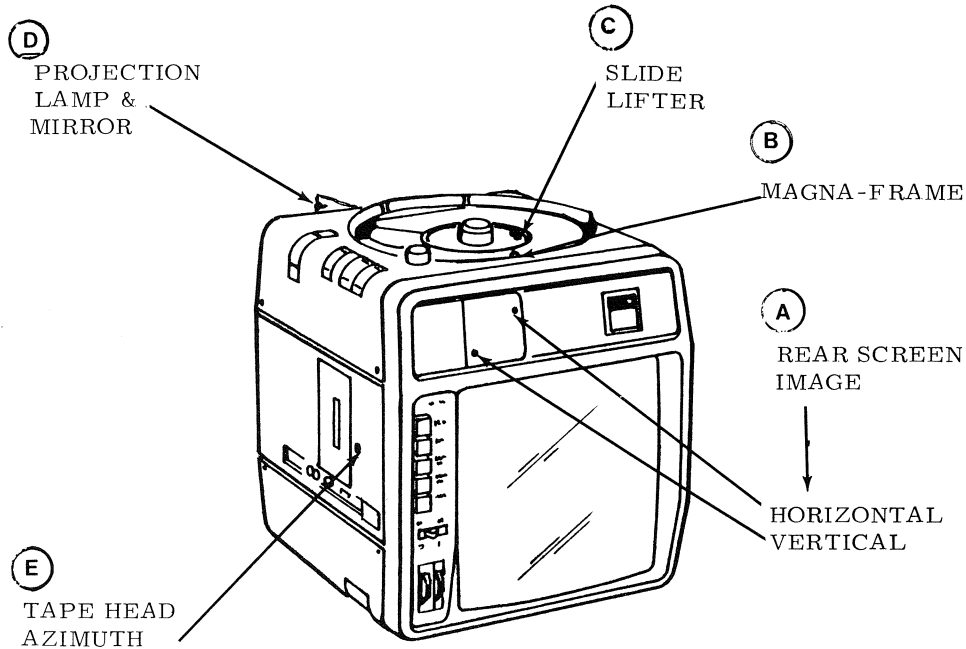

Figure 2-1. EXTERNAL ADJUSTMENT LOCATIONS
A. REAR SCREEN IMAGE CENTERING (A, Figure 2-1)
(Figure 2-1)
C.SLIDE LIFTER HEIGHT (C, Figure 2-1)
1. Remove the dust cap (C, Figure 2-1) using pointed tweezers.
5. Turn adjustment screw (C, Figure 2-1) with 0.0500 (1.27mm) socket screw wrench.
D. ILLUMINATION -Lamp Mirror (D Figure 2-1)
E. TAPE HEAD AZIMUTH ADJUSTMENT(D, Figure 2-1)